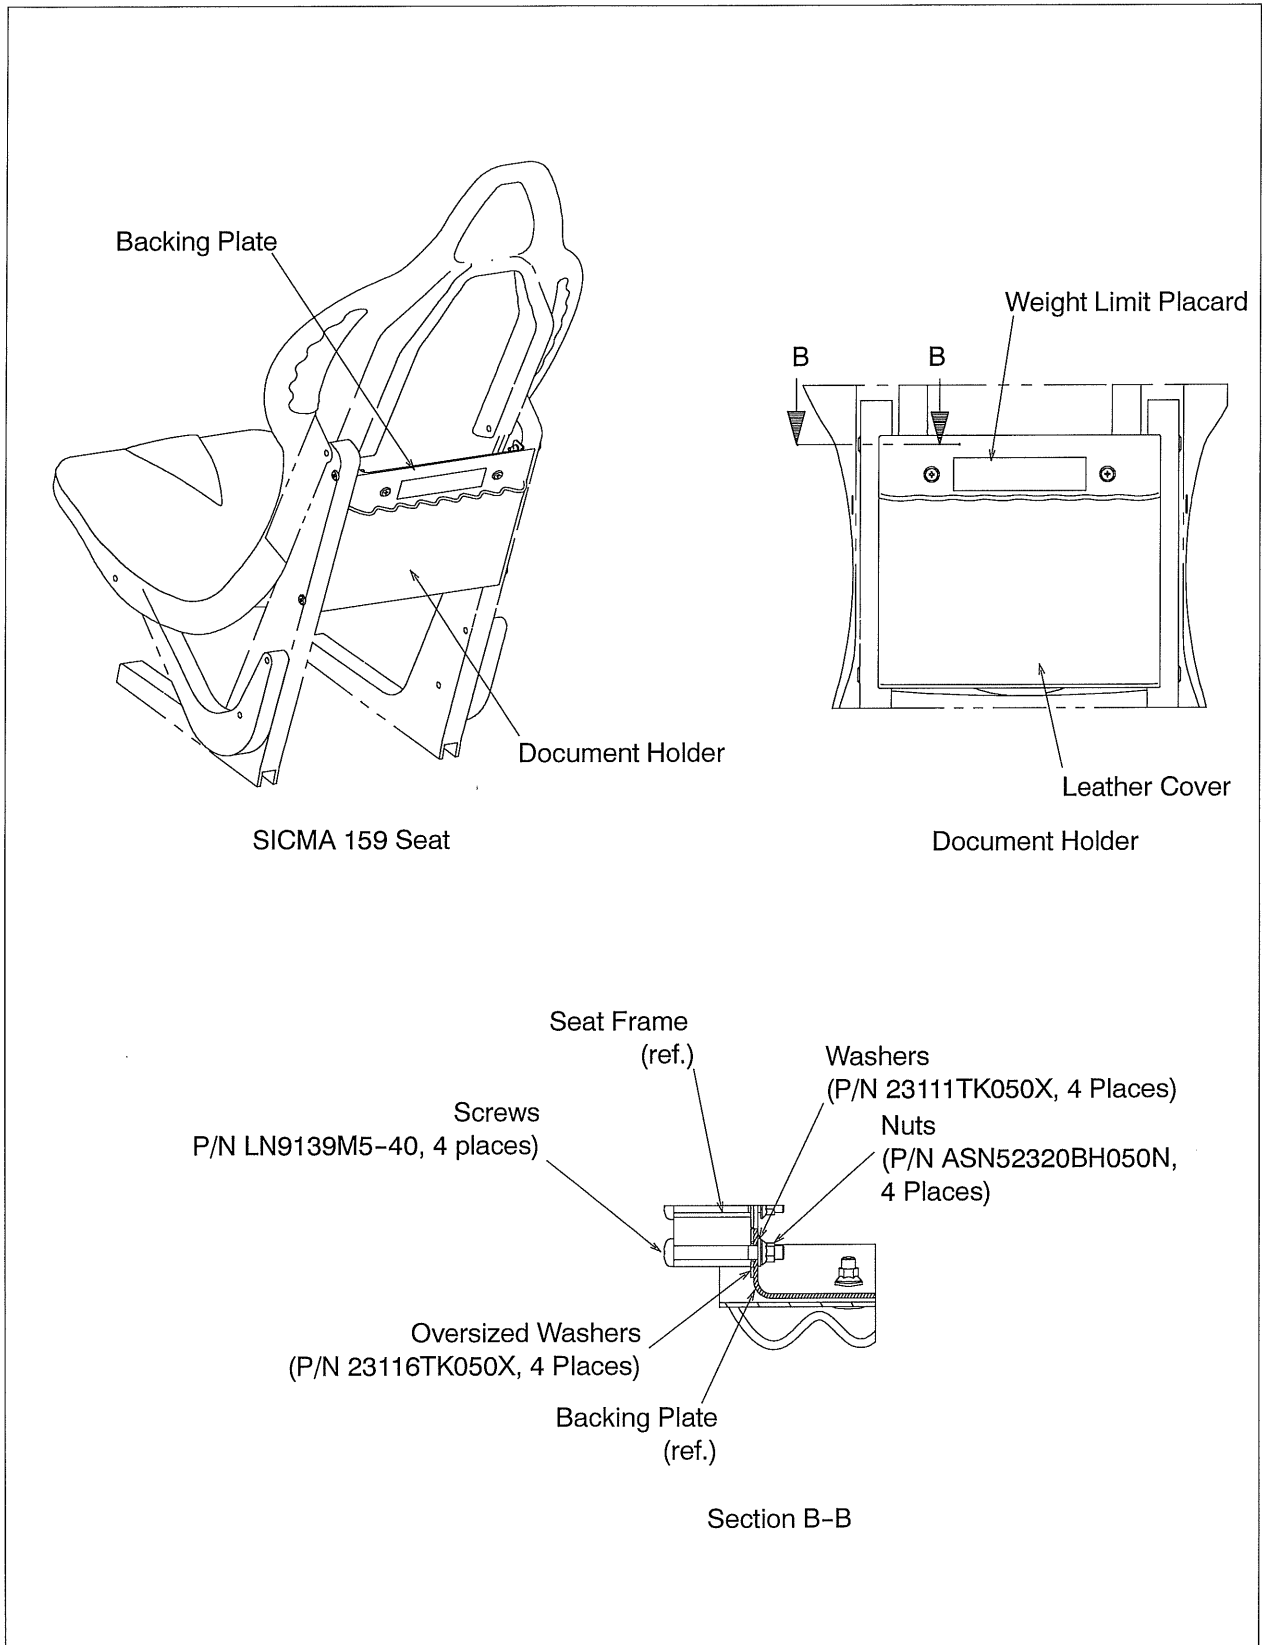

Figure 2 Document Holder for SICMA 159 Seat
- 2) DOCUMENT HOLDER for SICMA 159 SEAT (Refer to Figure 2)
- 2) DOCUMENT HOLDERS for SICMA 159 SEAT (Refer to Figure 2)